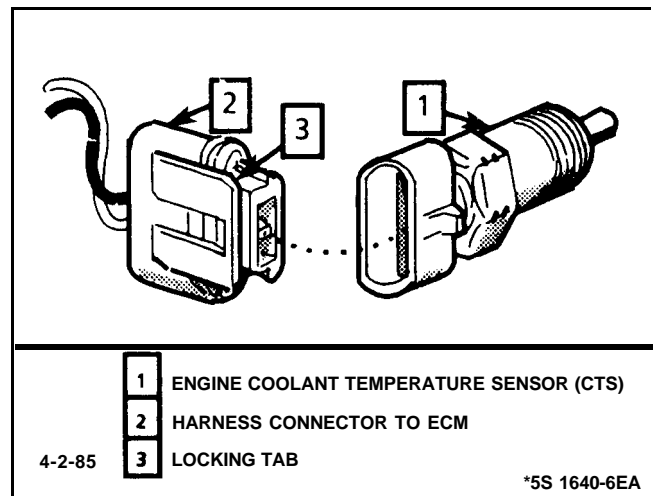

Figure C1-3 – Coolant Temperature Sensor (CTS)
**Coolant Temperature Sensor (CTS) (Figure C1-3)**